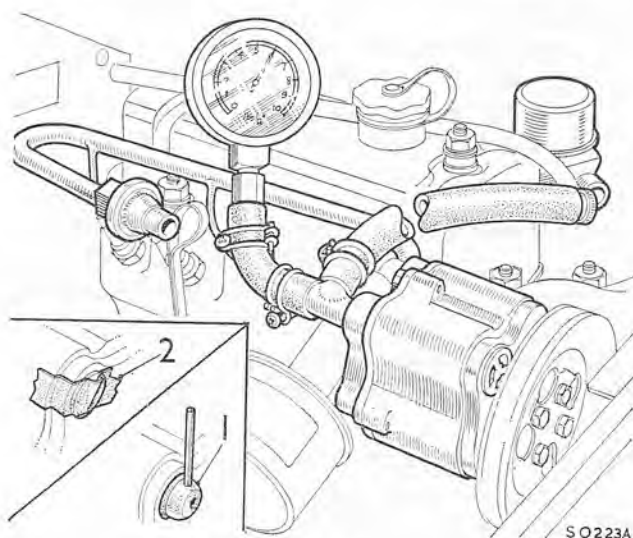

Fig. 2
- (2) Connect a tachometer to the engine in accordance with the instrument-maker's instructions.
- (3) Disconnect the gulp valve air supply hose at the gulp valve and securely plug the hose.
- (4) Disconnect the air manifold supply hose at the check valve, and connect a pressure gauge to the hose (see Fig. 2).
- (5) Run the engine at the air pump test speed given in 'TUNING DATA': a gauge reading of not less than 2.75 lb./sq. in. should be registered.
- (6) Stop the engine and fit a temporary air duct over the face of the relief valve. Two methods of doing this are shown in Fig. 2. The tool (1) may be fabricated from grommet (Part No. 1B 1735) and a short length of metal brake tube, or (2) by using a piece of adhesive tape to form the duct.